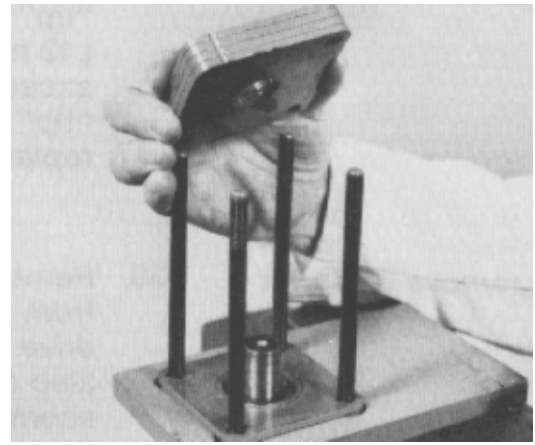

Figure 74
43. Remove the upper cover plate (four plates bonded together) (Fig. 74). Inspect the upper cover plate. You should notice some polishing due to the action of the seal. The plate should be free of brinelling (dents) or spalling (flaking). If it is damaged, the upper cover plate must be replaced.